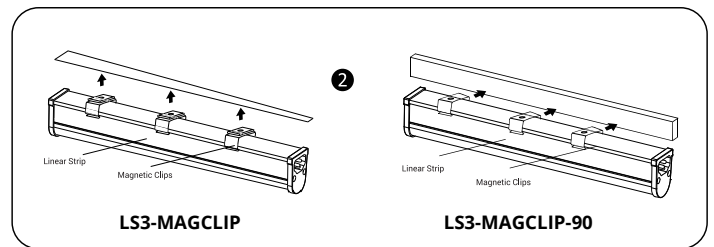

Figure 2
- 2) Insert fixture into mounting brackets. (Figure 2)